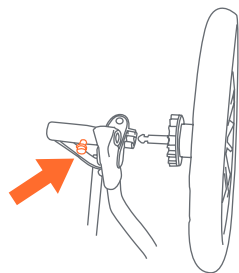

Fig. 5b
- To remove the rear wheels, press the wheel release button (Fig. 5b) on the rear tube and pull the wheel from the hub.